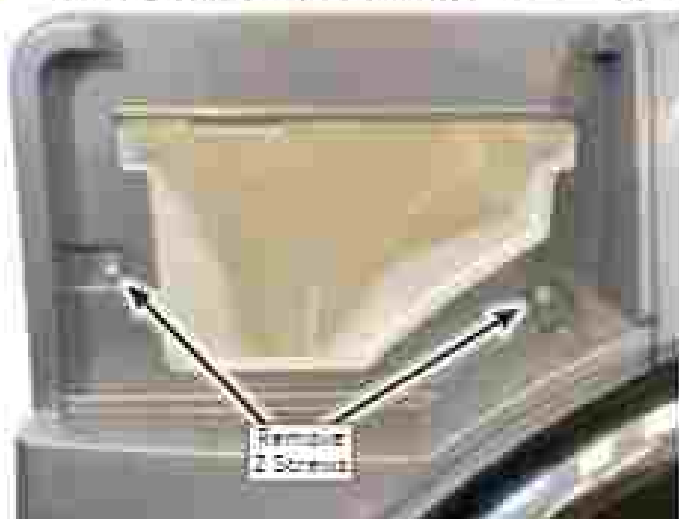

Figure 2
6. Using a T20 Torx driver, remove the two (2) screws on both sides of the dispenser drawer opening (see Figure 2).